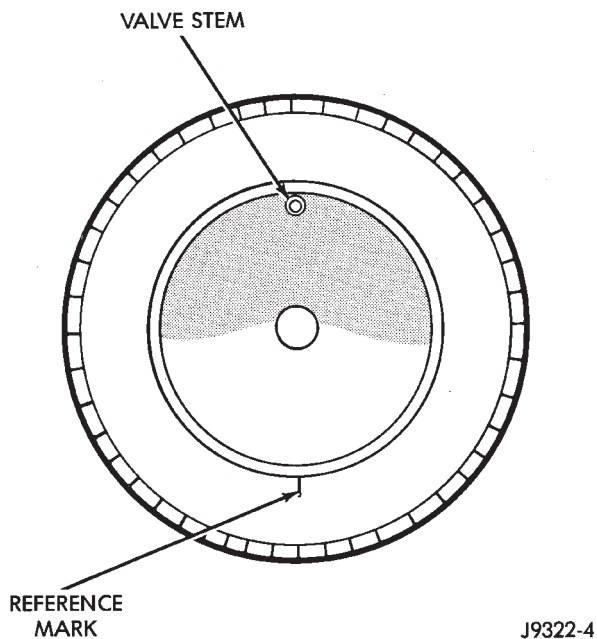

Fig. 9 Remount Tire 180 Degrees
(2) Break down the tire and remount it 180 degrees on the rim (Fig. 9).
(3) Measure the total indicator runout again. Mark the tire to indicate the high spot.
(4) If runout is still excessive (in excess of 1.524 mm or 0.060 in.), the following procedures must be done.